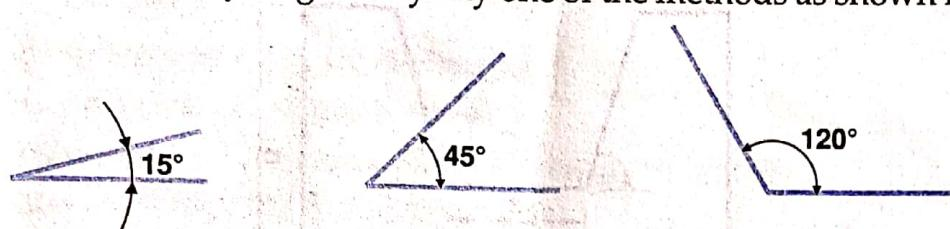

Fig. 3.25 Dimensioning angles
- (xiv) Angular dimensions may be given by any one of the methods as shown in Fig. 3.25.